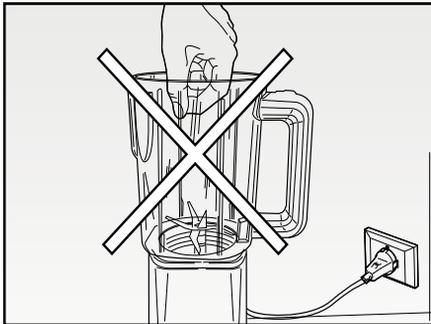

Fig. 7
14. Never insert hands into the goblet whilst the appliance is plugged in (Fig. 7). Always use the food presser.